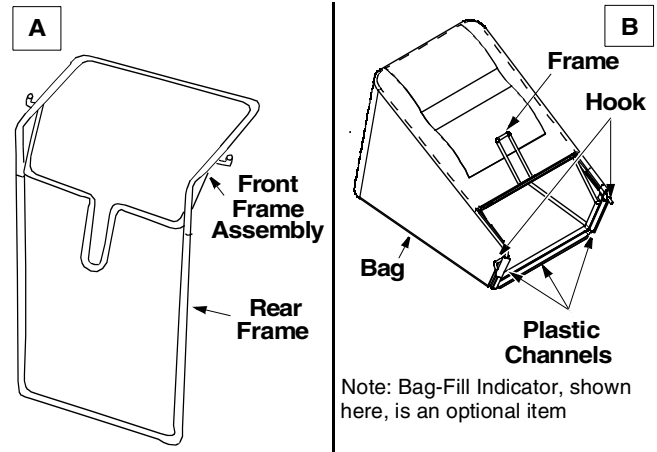

Figure 7
- Join the rear frame and front frame assembly as shown in Figure 7 A.
- Secure bag to frame by working the plastic channels on bag over frame as shown in Figure 7 B. All of the plastic channels except the center top of the bag attach from the outside of bag. The center top of the bag attaches from inside the bag.